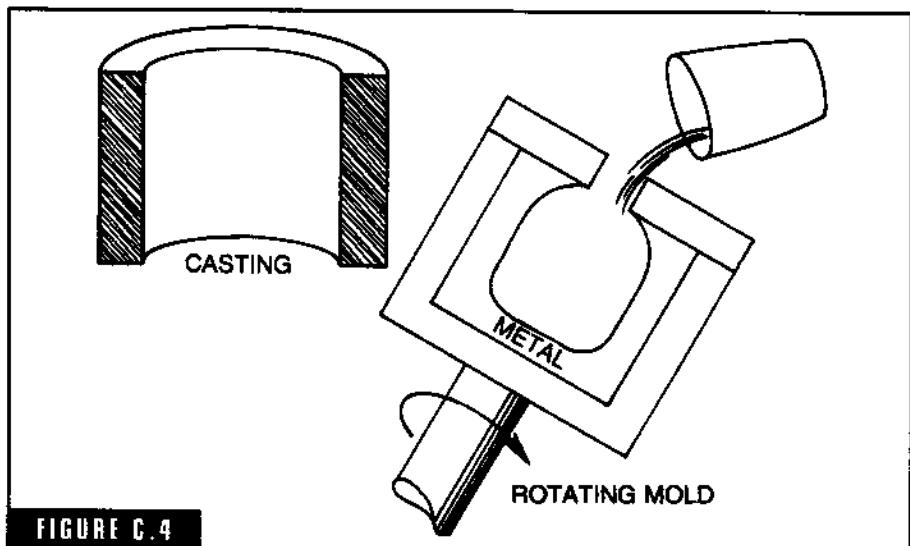

FIGURE C.4
**centrifugal casting** The production of castings by centrifugal force (true centrifugal) where the molten metal is poured into a rotating mold at the axis of rotation and is conveyed by centrifugal force out to the peripheral extremities leaving a hollow casting with the impurities in the center or bore (Fig. C-4). Cast iron and steel pipe are produced by this method, as are bronze bushing stocks.